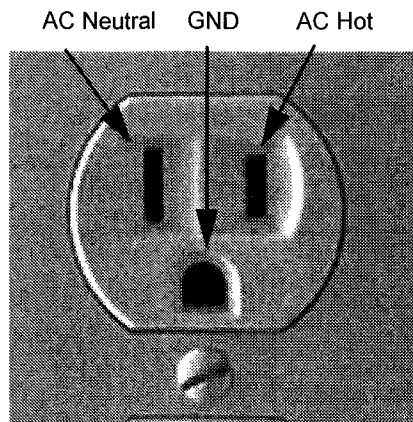

Figure 2-1. 110 VAC Receptacle
1. **110 VAC:** Voltage at the wall receptacle must be from 90 VAC to 132 VAC between AC hot and AC neutral and between AC hot and GND. Voltage should be less than 3 VAC between GND and neutral (see Figure 2-1).